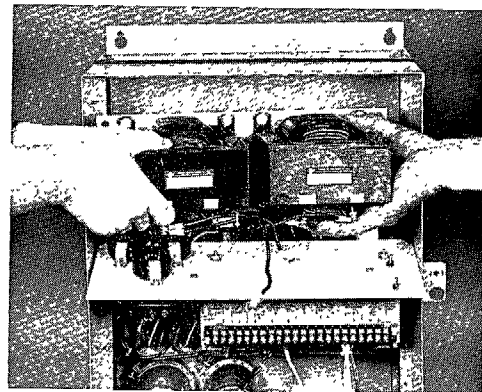

FIGURE 38F
4. The chokes are fastened to a plate that is fastened to the back case on four studs with nuts and washers. The choke assembly has one choke on the 1-1 1/2 HP single phase and 2-3 HP three phase controllers. The 2-3 HP single phase and 5-7 1/2 HP three phase controllers have two chokes mounted on the assembly. To remove the choke assembly, remove the four nuts and washers that fasten the assembly to the back case and lift out the choke assembly. (see Figures 38F and 38G)